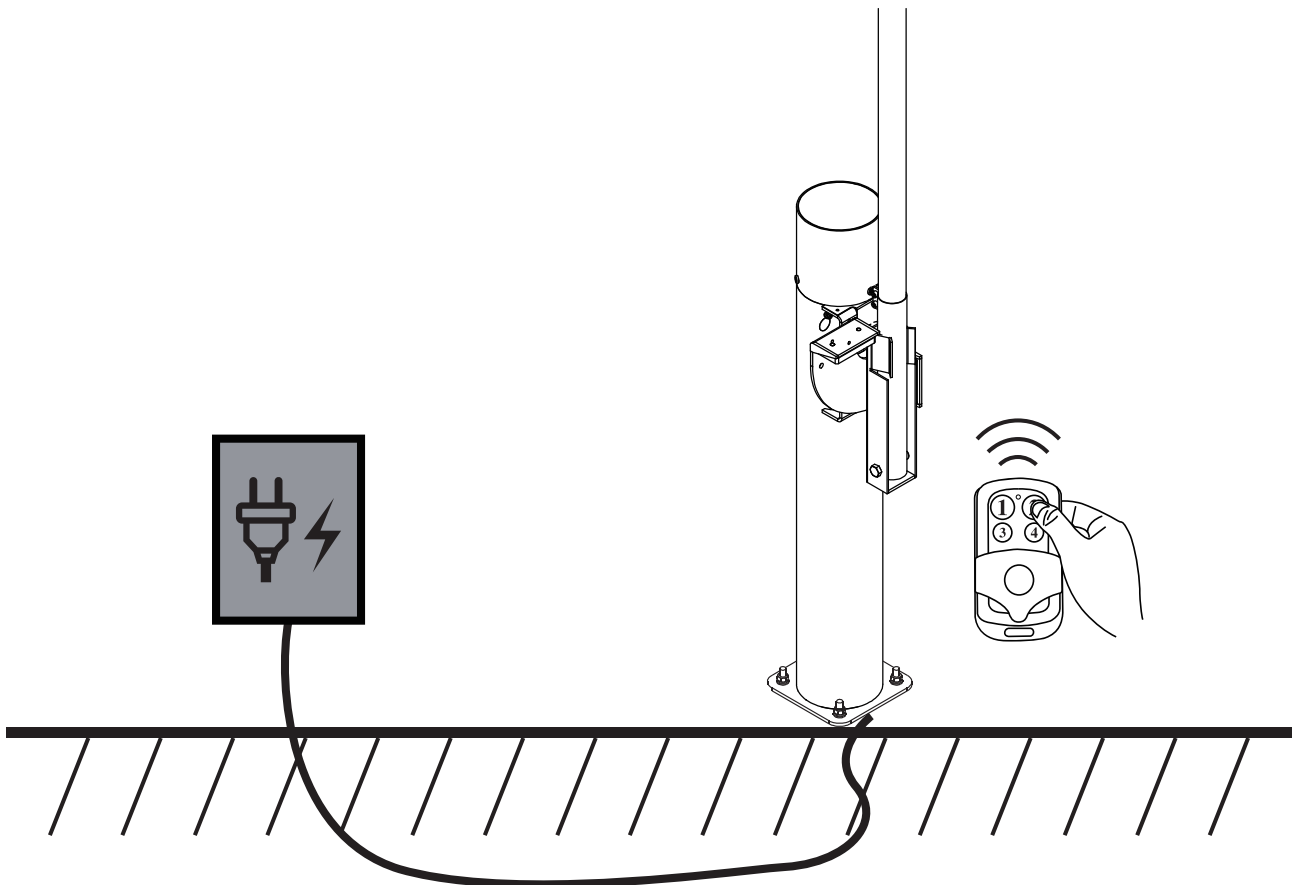

Figure 4
- (4) Connection of power cable, press the remote control to test if it is working normally as the figure 4.